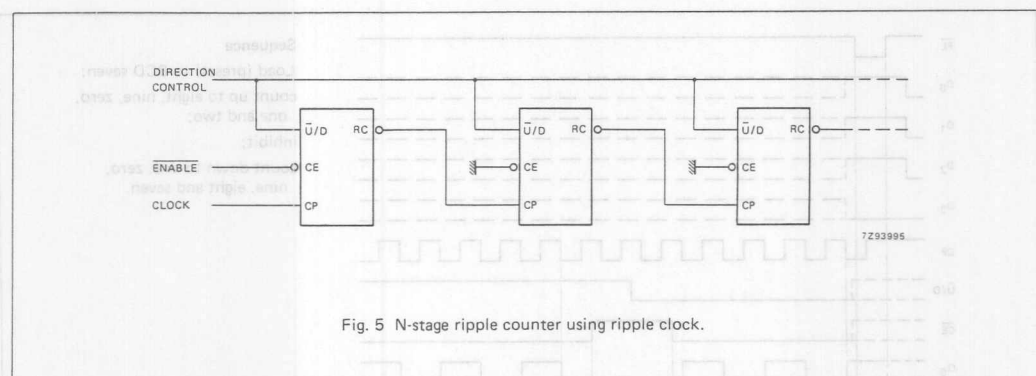
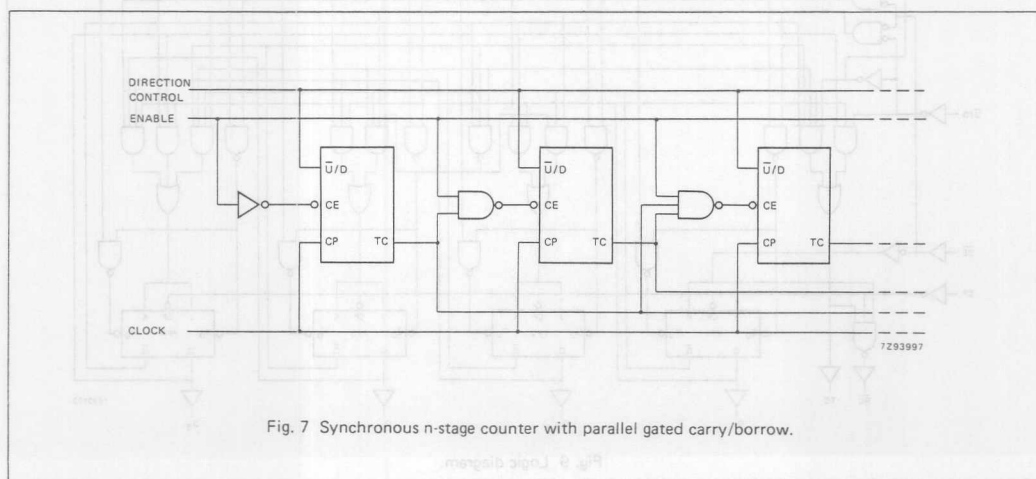

Fig. 5 N-stage ripple counter using ripple clock.
Fig. 7 Synchronous n-stage counter with parallel gated carry/borrow.
Note to Figs 7 to 10
Overflow/underflow indications are provided by two types of outputs, the terminal count (TC) and ripple clock (RC). The TC output is normally LOW and goes HIGH when a circuit reaches zero in the count-down mode or reaches "9" in the count-up mode. The TC output will remain HIGH until a state change occurs, either by counting or presetting, or until U/D is changed. Do not use the TC output as a clock signal because it is subject to decoding spikes. The TC signal is used internally to enable the RC output. When TC is HIGH and CE is LOW, the RC output follows the clock pulse (CP). This feature simplifies the design of multistage counters as shown in Figs 5 and 6.
In Fig. 5, each RC output is used as the clock input to the next higher stage. It is only necessary to inhibit the first stage to prevent counting in all stages, since a HIGH on CE inhibits the RC output pulse as indicated in the function table. The timing skew between state changes in the first and last stages is represented by the cumulative delay of the clock as it ripples through the preceding stages. This can be a disadvantage of this configuration in some applications.
In Fig. 7, the configuration shown avoids ripple delays and their associated restrictions. Combining the TC signals from all the preceding stages forms the CE input for a given stage. An enable must be included in each carry gate in order to inhibit counting. The TC output of a given stage is not affected by its own CE signal therefore the simple inhibit scheme of Figs 5 and 6 does not apply.